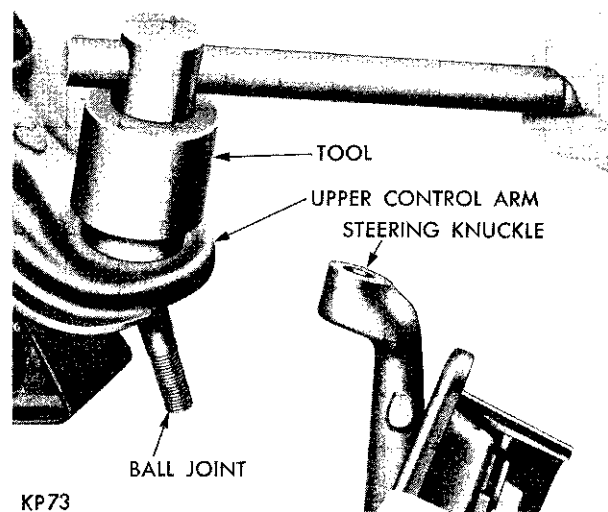

Fig. 23—Removing Ball Joint
(4) Using Tool C-3560 (Fig. 23), unscrew ball joint from upper control arm. The ball joint balloon type seal will come off as ball joint is removed.